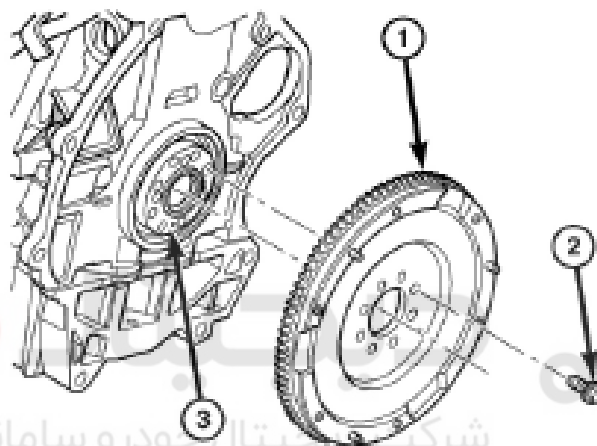

Figure 3-10 Flywheel and crankshaft
Lifan 520 engine uses traditional flywheel assembly and the flywheel is an integral rotator fixed behind the crankshaft (Figure 3-10). The flywheel is also equipped with an integral starter ring gear.
- (1) Remove the transmission (see transmission -Disassembly).
- (2) Remove clutch pressure plate and clutch disk (see clutch-clutch disk -Disassembly).
- (3) Screw off 8 bolts for flywheel and crankshaft and remove the flywheel assembly (Figure 3-10).